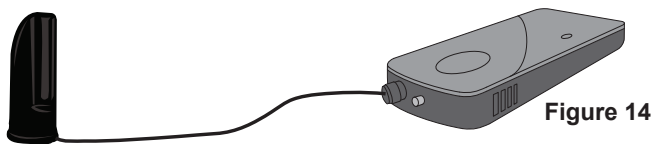

Figure 14
1. Attach the desktop antenna cable by screwing it onto the threaded connector on the signal booster (see Figure 14).